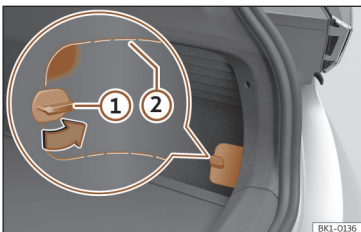

Fig. 76 On the lower right-hand side of the luggage compartment trim: cover with cutting lines.
- Turn the cover lock through 90° >>> Fig. 76 ①.
- Press the surface over the lock inwards >>> Fig. 76 (marked zone).
- Insert your hand through the opening and pull the cover off. If necessary, apply a suitable object along the cutting lines >>> Fig. 76 ②.